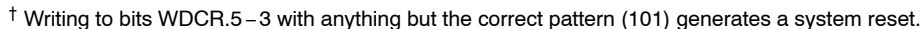

Figure 19. Block Diagram of the WD Module
The x240xA devices include a watchdog (WD) timer module. The WD function of this module monitors software and hardware operation by generating a system reset if it is not periodically serviced by software by having the correct key written. The WD timer operates independently of the CPU. It does not need any CPU initialization to function. When a system reset occurs, the WD timer defaults to the fastest WD timer rate available (WDCLK signal = CLKOUT/512). As soon as reset is released internally, the CPU starts executing code, and the WD timer begins incrementing. This means that, to avoid a premature reset, WD setup should occur early in the power-up sequence. See Figure 19 for a block diagram of the WD module. The WD module features include the following:
Figure 19 shows the WD block diagram. Table 14 shows the different WD overflow (time-out) selections.